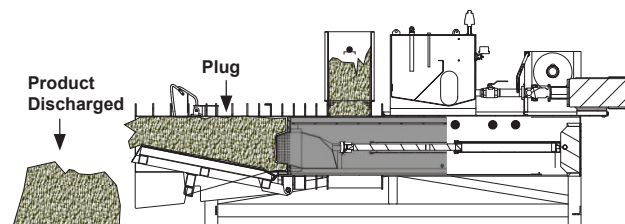

Figure 29 - Plug Formed
6. **DEWATERING STARTS** Good dewatering starts when product has formed a plug in the chamber with the restriction rail up and the plunger pushing product forward (see Figure 29).